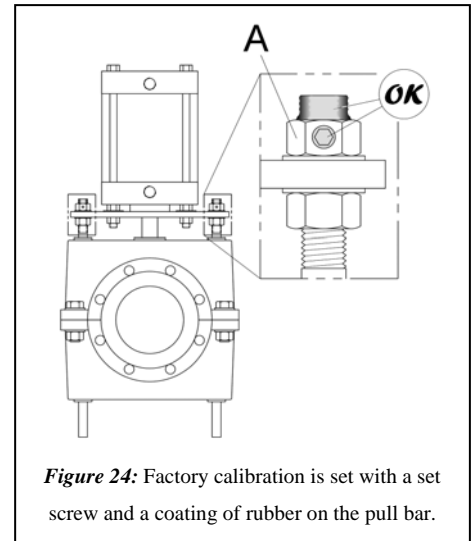

Figure 24: Factory calibration is set with a set screw and a coating of rubber on the pull bar.
STEP 1: Remove the RF Valve® from the pipeline. Then place the RF Valve® either standing on its actuator or lay it on the ground (Fig. 24) preferably on a smooth, clean surface. When laying the RF Valve® down be sure not to crush any fragile accessories.
The RF Valve® is factory calibrated to close with the amount of force necessary to seal against the applicable line pressure. After calibration, a set screw is inserted into each of the A-nuts and a coating of blue rubber is applied to the pull bar threads above the A-nut to certify RF Valve's factory calibration (Fig. 24).
- it appears the A-nuts have been disturbed (for example: missing set screw and/or missing blue rubber coating). See Fig. 24.